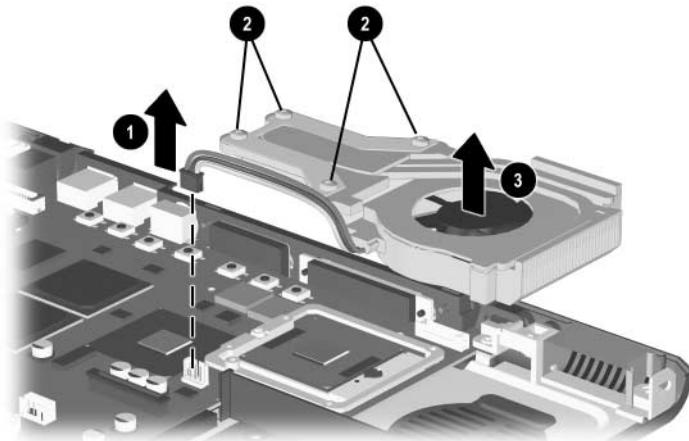

Figure 5-29. Removing the Fan
2. Disconnect the fan cable from the system board ① (Figure 5-29).
3. Loosen the four PM2.0 × 9.0 shoulder screws ② that secure the fan to the processor mounting bracket.